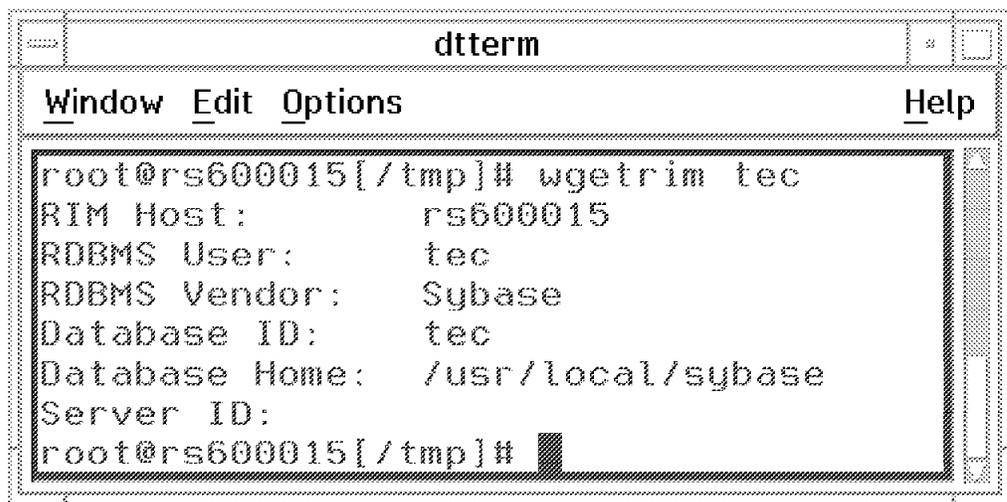

Figure 11. wgetrim Command Output
1. First, verify that the RIM object is properly installed. Enter the command `wgetrim tec`. Check that the values in the command response are correct. In our environment the command response was as shown in Figure 11.